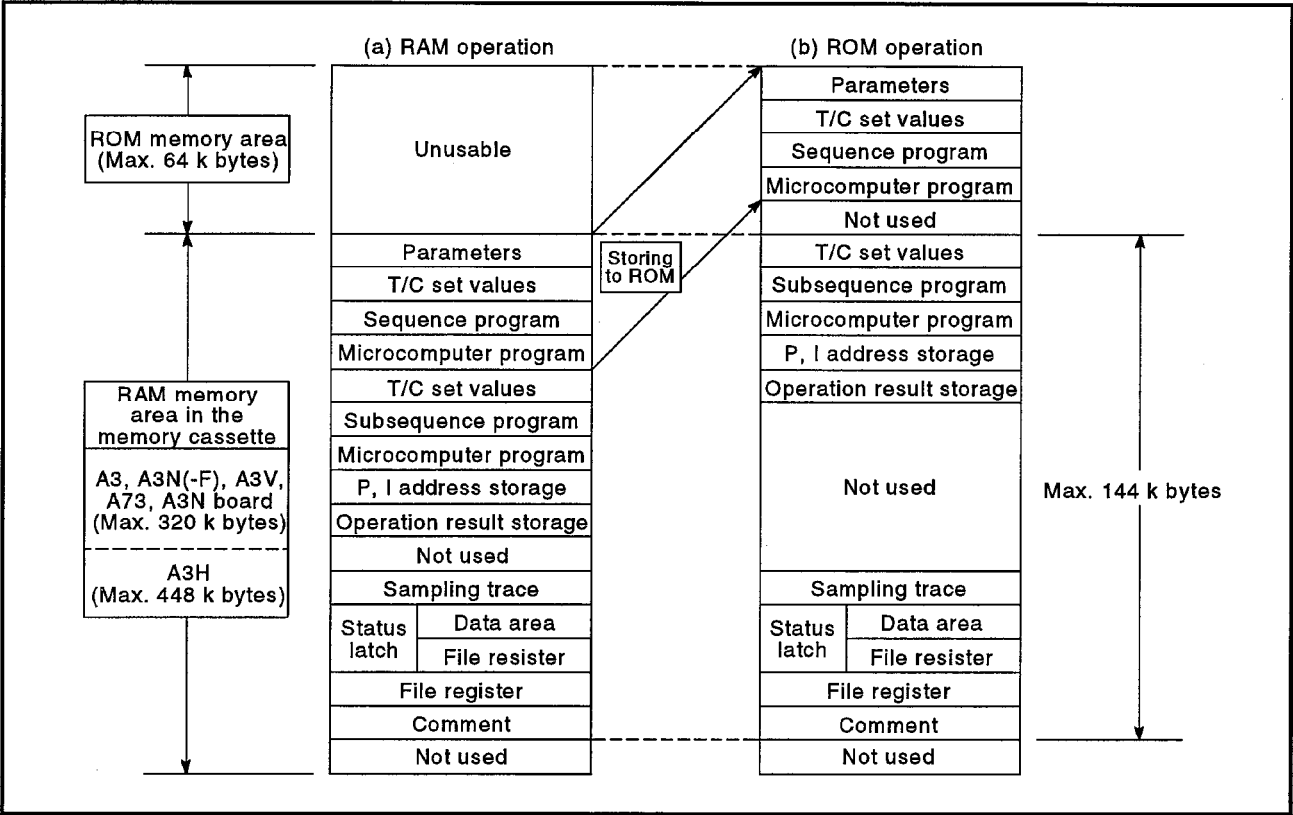

Fig. 9.17 Configuration of the User Memory Area
- (2) When parameter setting is done
- A maximum of 144 k bytes of the user memory area can be used by allocating it as shown in Fig. 9.17.